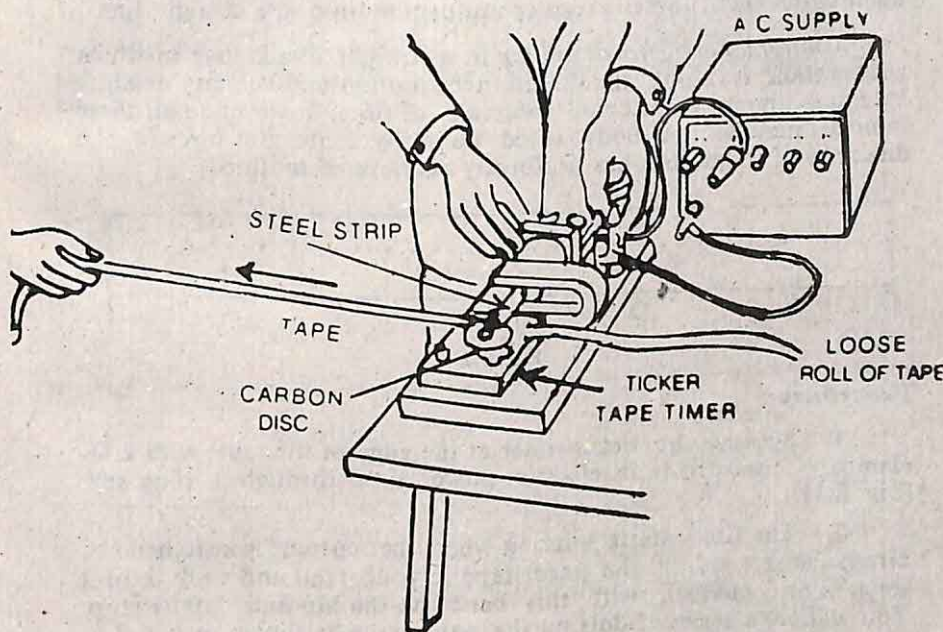

Fig. 8-1. Ticker tape timer
1. Set up the ticker-timer at the edge of the table with a G-clamp. Connect it to its electric power unit through a plug key. (Fig. 8.1).